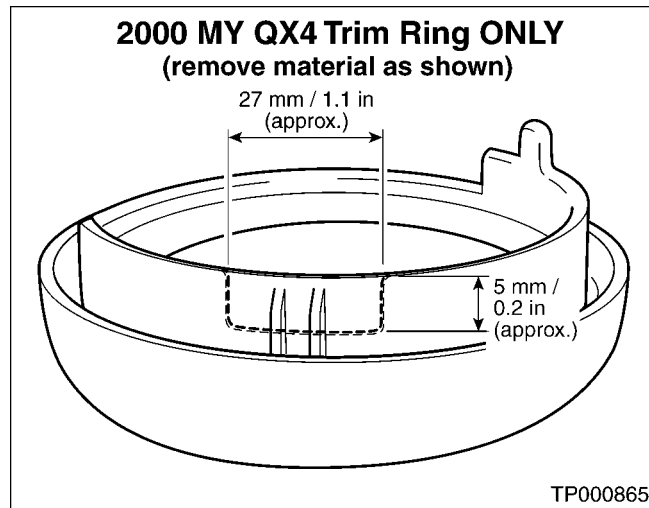

Figure 9
A. Remove a section of the trim ring as shown in Figure 9.
**NOTE:** The purpose for removing a section of the trim ring is to allow clearance between the trim ring and the newly installed plastic ring clip (on the ignition key lock cylinder). The dimensions given in Figure 9 below are general guidelines and may need to be adjusted to achieve sufficient clearance with minimal material removal.